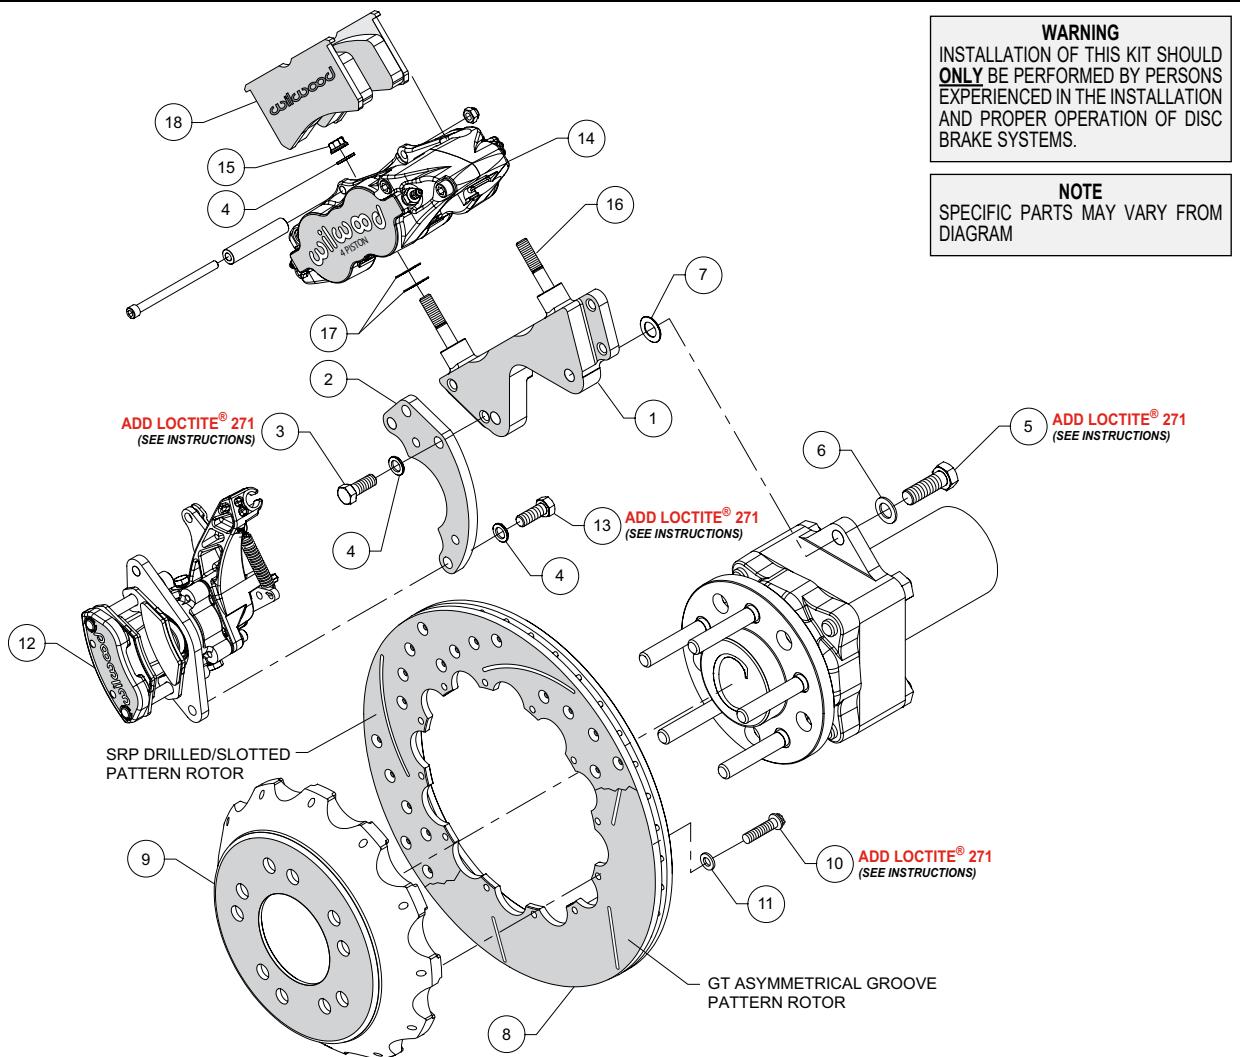
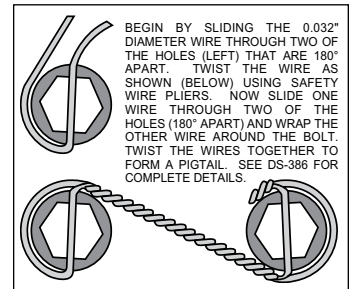

Figure 1. Typical Installation Configuration
Figure 3. Safety Wire Diagram
NOTE: Numbers in parenthesis refer to the parts list and Figure 1 on the preceding pages.
- Attach the MC4 flat caliper bracket (2) to the radial mount caliper bracket (1) using bolts (3) and washers (4) as shown in Figure 1 and Photo 1. Apply red *Loctite*® 271 to the bolt threads and torque to 35 ft-lbs. **NOTE:** The MC4 Bracket may be mounted on either end of the radial mount bracket.
- The caliper mount bracket assembly (1/2) should initially be installed with clean, dry threads on the mounting bolts. Orient the bracket assembly as shown in Figure 1, and Photo 2, and install using bolts (5) and washers (6). Initially place one .032" thick shim (7) on each bolt between the bracket and axle hub, Figure 1. Temporarily tighten the mounting bolts. **NOTE:** The bracket must fit squarely against the mount bosses on the axle hub. Inspect for interference from casting irregularities, machining ridges, burrs, etc. Later, after the caliper alignment has been checked, the mount bolts will be secured using red *Loctite*® 271.
- Orient the rotor (8) and the hat (9) as shown in Figure 1 and Photo 3. Attach rotor to hat using bolts (10) and washers (11). Apply red *Loctite*® 271 to the bolt threads and torque to 155 in-lb using a criss-cross pattern. For an added measure of security, the bolts may be safety wired using standard 0.032 inch diameter stainless steel safety wire as shown in Figure 3. Please refer to Wilwood's data sheet DS-386 (available at www.wilwood.com/Pdf/DataSheets/ds386.pdf) for complete safety wire installation instructions.
- Initially place two .035" thick shims (17) on each stud (16) as shown in Figure 1 and Photo 5. Mount the caliper (14) onto the bracket (1) using lock nuts (15) and washers (4), Figure 1. Temporarily tighten the lock nuts and view the rotor through the top opening of the caliper. The rotor should be centered in the caliper, Photo 6. If not, adjust by adding or subtracting shims (7) between the bracket (1) and the mounting bosses. Always use the same amount of shims on each of the two mounting bolts. Once the caliper alignment is correct, remove the bracket mounting bolts (5) one at a time, apply red *Loctite*® 271 to the threads, and torque to 77 ft-lb.
- Mount the parking brake caliper (12) onto the lower section of the caliper mounting bracket assembly (1/2) using bolts (13) and washers (4), as shown in Figure 1 and Photo 10. Apply red *Loctite*® 271 to bolt threads, and torque to 30 ft-lb.